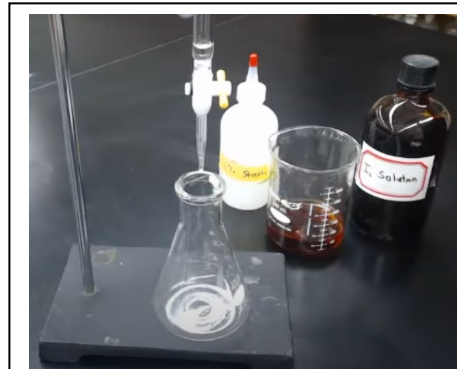

Figure 2 – experimental setup
2. Compound "K" is a straight-chained hydrocarbon containing 5 carbon atoms. A pure, 0.520 grams sample of compound "K" (molar mass 66 amu) was dissolved in 100 mL using an appropriate solvent and the resulting clear solution placed in a 200 mL conical flask. A few drops of a colourless starch solution were added to the flask and the clear solution titrated against a 1.00 M I_2 . The experimental setup is shown in fig. 2.